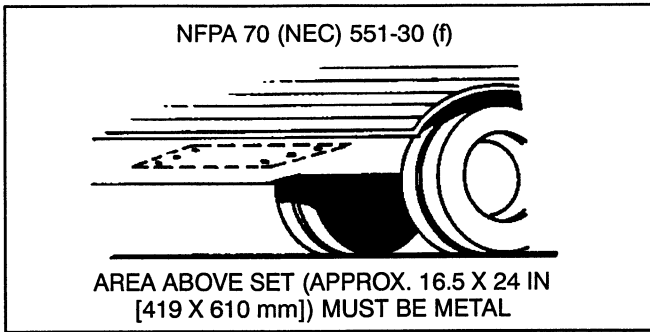

FIGURE 3. UNDER-FLOOR MOUNTING KIT WITH METAL CEILING (NOT SUPPLIED WITH KIT)
- If the area above the compartment is made of a wood product, install a vapor-tight, fire-resistant barrier equivalent to 26-gauge (0.02-inch) galvanized metal above the genset (see Figure 3).